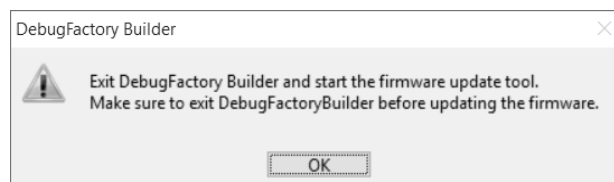

Figure 1.5.3 Firmware Update Tool Start Check
2. The dialog shown in Figure 1.5.3 appears. Click <OK>.